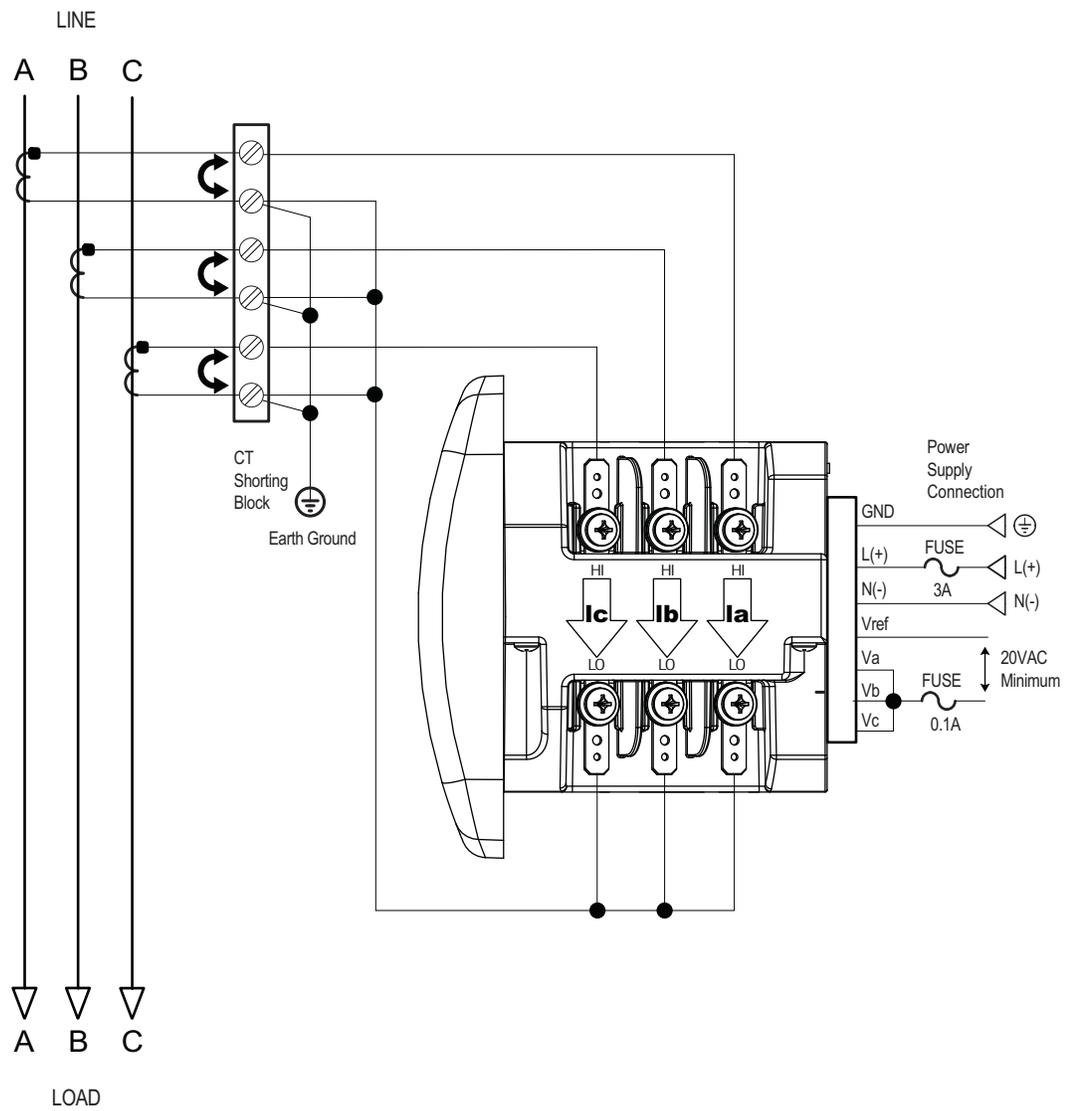

Figure 4-14: Current Only Measurement (Three Phase)
- Figure 4-14: *Current Only Measurement (Three Phase)* on page 4-17